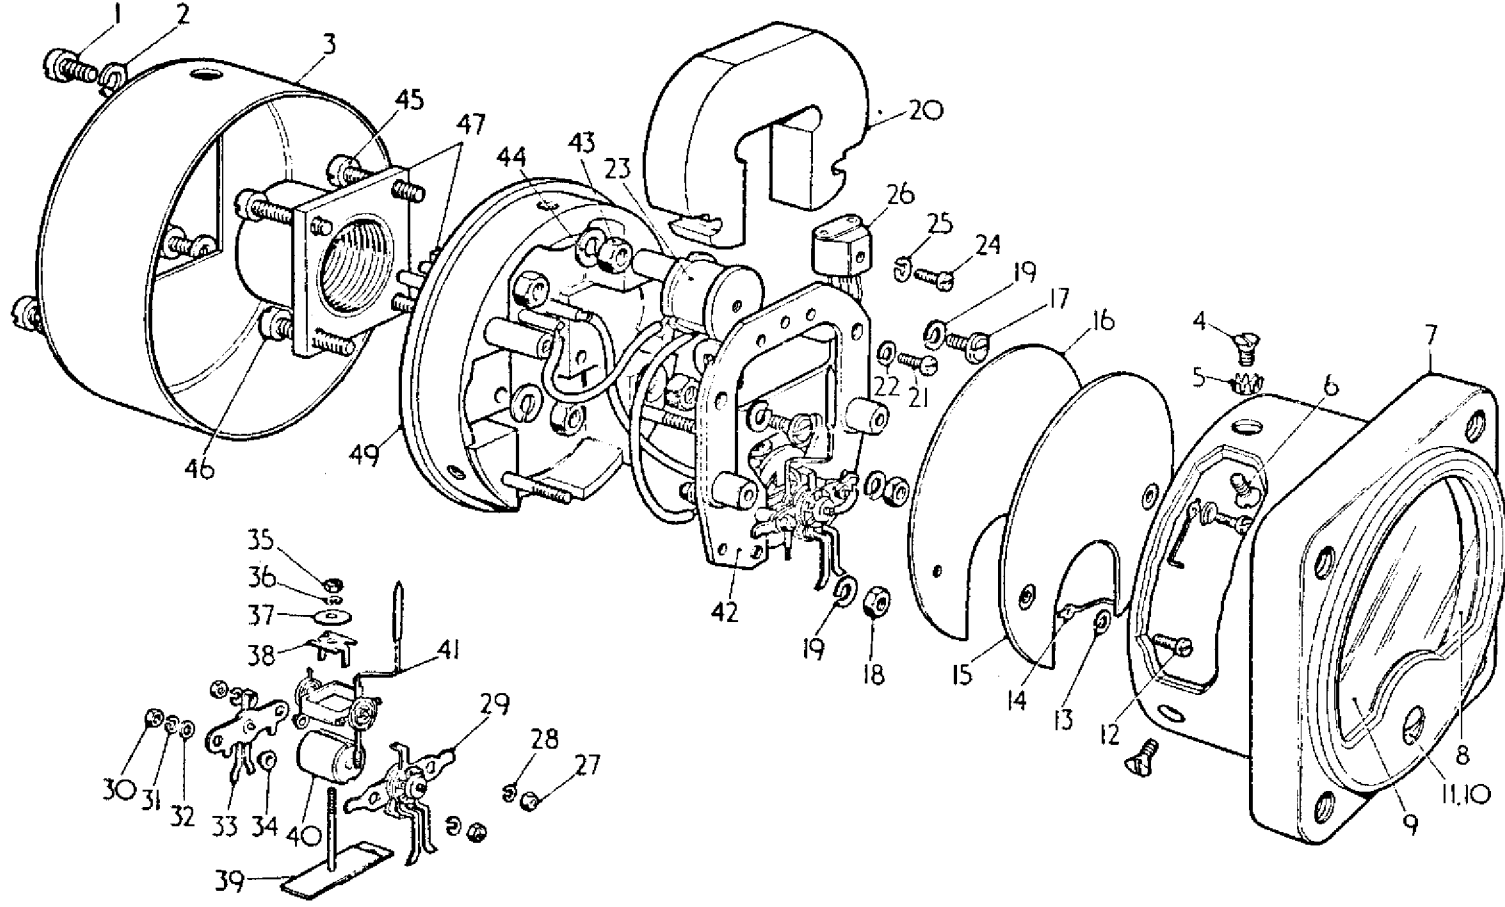

Fig.1 Exploded view of Indicator S.104 Form 3
B. Detail. (Refer to Fig.1)
The movement consists of a coil of fine copper wire wound on a copper or aluminium frame and pivoted in adjustable jewelled bearings which are inset in the top and bottom bridges (29) and (33). The coil, which rotates backwards and forwards in the gap between a core (40) and a pole piece (42), has a pointer, balance arms and two control springs attached to its pivot bases. The pole piece assembly is secured to the base by two screws, which engage in threaded mounting pillars, and also by two nutted studs. The studs are positioned in the lower part of the base and fit into grooves in the sides of the permanent magnet (20) in order to retain the latter in its correct position between the pole piece assembly plate (42) and the base (49). Small, threaded pillars, fitted to the pole piece assembly plate at the front of the indicator, and to the pole piece at the rear, support the two bridge assemblies (29) and (33). An appropriately calibrated scale (15) is mounted on a shield plate (16) and is secured by two screws (12) to two tapped pillars on the pole piece assembly plate; the two screws also secure the two pointer stops (14). A two-pin breeze connector (47) or, alternatively, a pair of terminals 48 (not shown in Fig.1) is fitted to the base. The breeze connector is secured to the base (49) with screws (45) (46), lockwashers (44) and nuts (43). The base is secured in the cover assembly by two countersunk screws (6) and a sealing screw (4). A pointer zero adjuster is incorporated, the adjusting screw (11) being captive in the cover. A metal shield (3) is fitted over the rear of the indicator and is secured by three cheesehead screws (1).
KEY TO FIG. 1
C. Procedure. (Refer to Fig. 1)
- (1) Remove the screws (1), lockwashers 2 (3 off-each item) and withdraw the metal shield (3).
- (2) Remove sealing screw (4), sealing cup (5), screws 6 (2 off) and withdraw the indicator from the cover assembly (7).
- (3) To remove glass (9) from cover assembly (7), remove bezel ring (8).
C. Broken Glass (Refer to Fig.1)
- (1) Prise out the bezel ring (8) and glass (9) from the cover (7).
- (2) Use Genklene (if available), Inhibisol or acetone as a solvent and remove all Bostik adhering to cover.